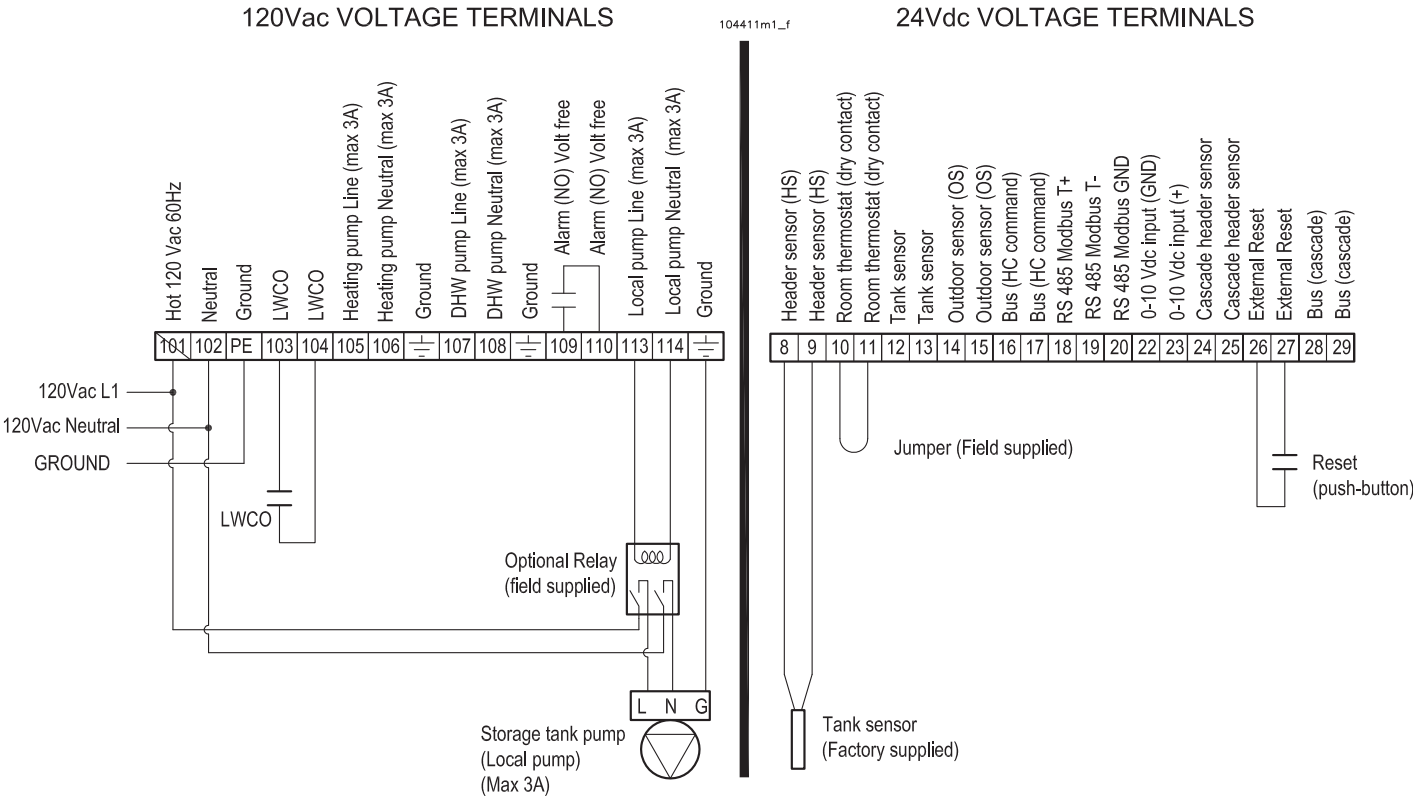

Figure 10-5 Electrical customer connection for IW water heaters connected to small instantaneous storage tank (see section 8.2.6, letter b))
2. The storage tank pump (Local pump) must be connected to terminals “113” and “114” (See Figure 10-5) (a field supplied pump relay must be installed if the pump current draw is grater than 3 amps).
3. Remove header sensor present on terminals “8” and “9” of Figure 10-5;
4. The storage tank temperature sensor must be connected to terminals “8” and “9” (See Figure 10-5). The sensor must be placed into the storage tank in a way that can detect the water temperature (Follow the storage tank instruction).